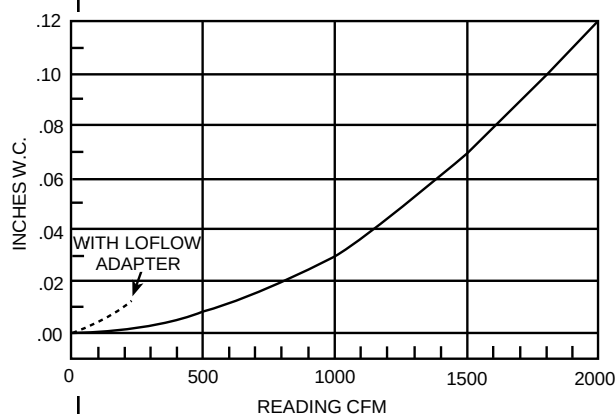

Figure 12. Backpressure Curve
7. The additional system back pressure generated by the Balometer may affect the output of an individual diffuser. Depending on system design and balancing method, this may or may not be important. When proportionally balancing a system of similar outlets, this is not usually an important factor. If system design or other factors require adjustment, Figure 12 is included for your reference.